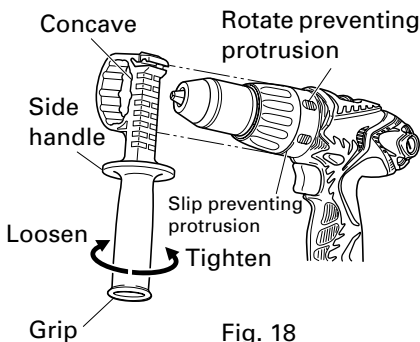

Fig. 18
(1) Install the side handle so that the protrusions on the main unit and grooves on the side handle interlock. Tighten the grip after checking that the side handle is not riding on the slip prevention protrusion. (Fig. 18)
(2) Loosen the grip to remove the side handle.